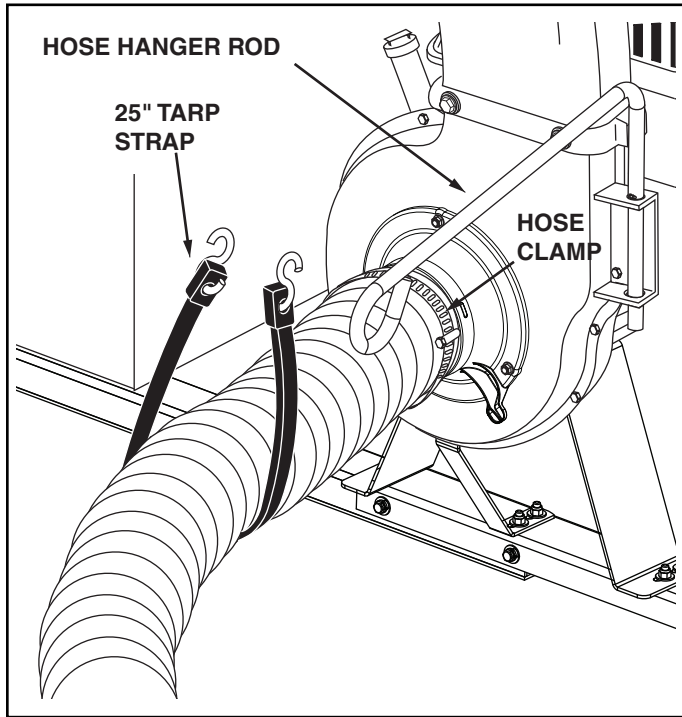

FIGURE 8
14. Place a hose clamp onto one end of hose. Push hose onto hose adapter (nozzle). Tighten hose clamp onto hose and hose adapter. **Do not** collapse hose adapter when tightening clamp. See figure 8.
15. Place the hose hanger rod into the hose hanger bracket on the impeller housing assembly. See figure 8.
16. Loop the 25" tarp strap under the hose. Hook to the hose hanger rod. See figure 8.